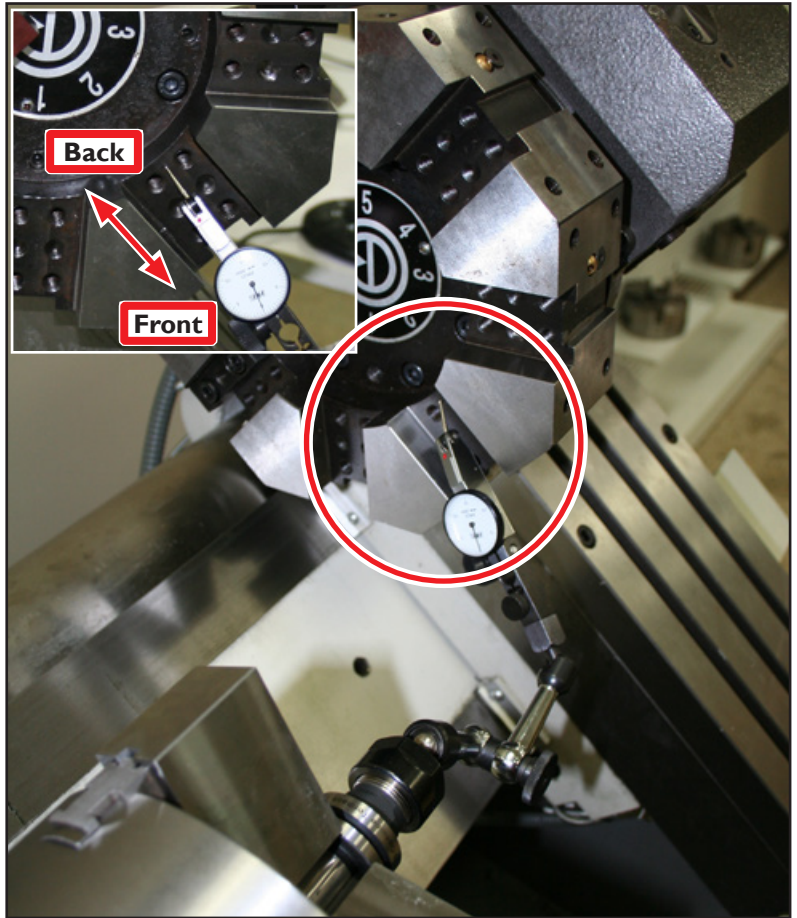

Figure 28
12. To ensure the tool pocket is parallel to the spindle, run the dial indicator back to front in the tool pocket (see **Figure 28**). If, for example, the dial indicator reads  $-.001$ ", slightly loosen all six Socket Head Cap Screws.